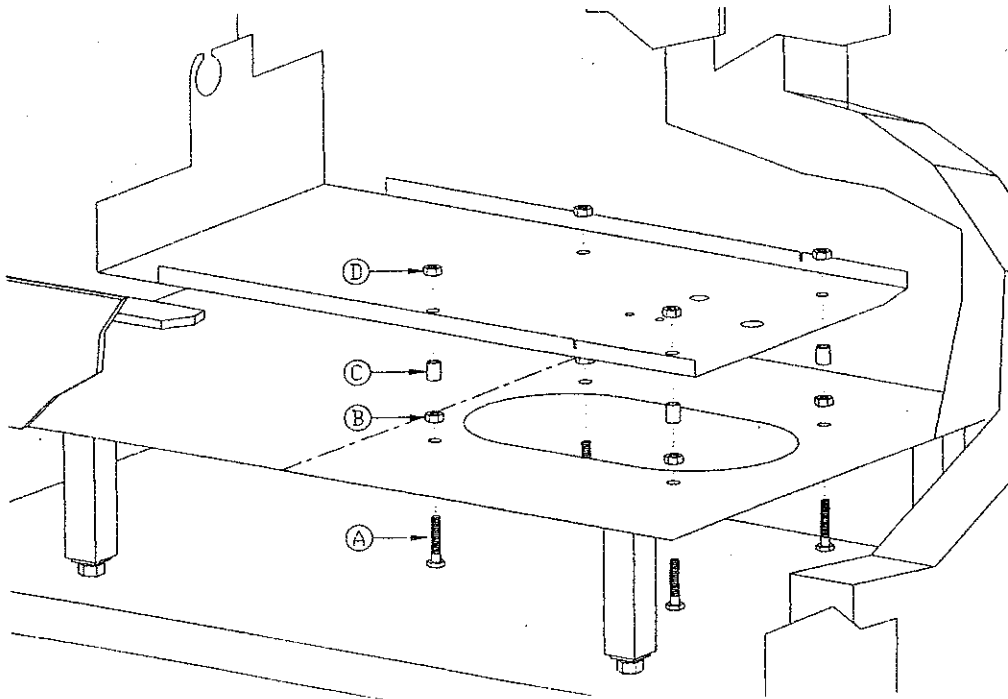

FIG. 4
D) REGULATOR BOARD INSTALLATION. See Figure 4.
1. Install the four, 1-1/2" bolts (A) from underneath the unit, and place one, 1/4" nut (B) onto each bolt followed by one, 3/4" spacer (C).